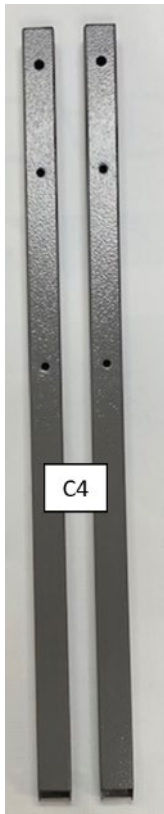

Figure 6
- B. The open hole on C4 needs to be faced up, as shown in figure 6.